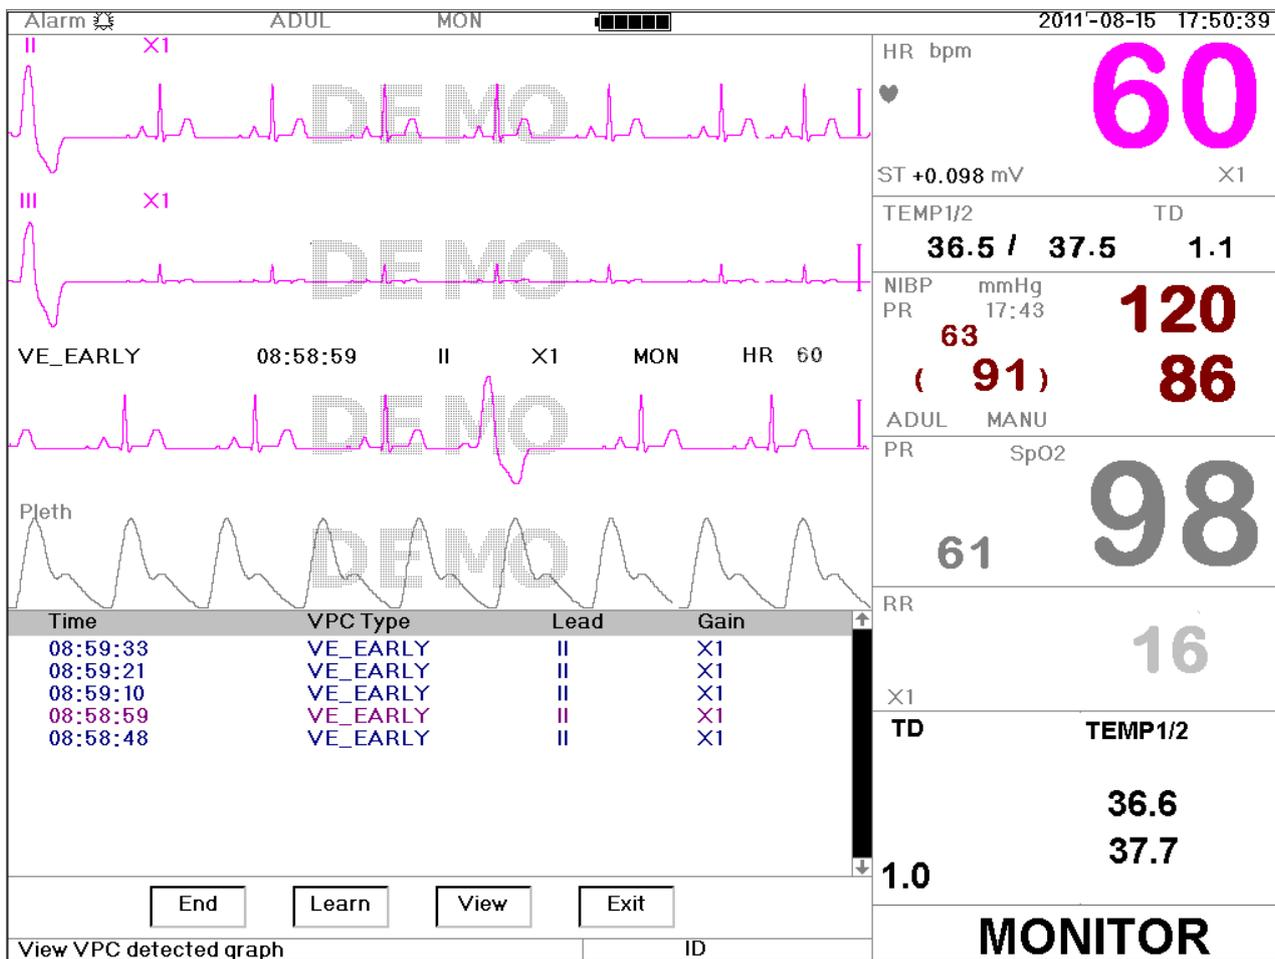

Figure 4.28 ARR Screen
Move the gray cursor to “ARR” and press Navigation Knob to enter ARR screen, shown in Figure 4.28. The structure is similar to recall screen. We will cover each function key below.
**End:** This button is used to start and end the system arrhythmia detection. The default is End. When the ARR is not ON, the learn key is disabled. Press this key and the system enters learning mode. The Start changes to End. Press it again to end the learning. When “Learn” key change to yellow from gray, it indicates the learning has finished. After the arrhythmia detection begins, the system will automatically detect the arrhythmia waveforms. If arrhythmia is detected, the arrhythmia waveform will be displayed in the 3rd ECG channel, shown in Figure 4.28